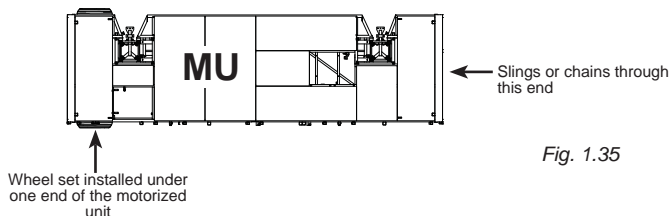

Fig. 1.35
- 2- Install the optional wheel set under one end of the motorized unit (fig. 1.35). For more information about the installation and use of a wheel set, refer to p. 81 of the *Accessories* section.